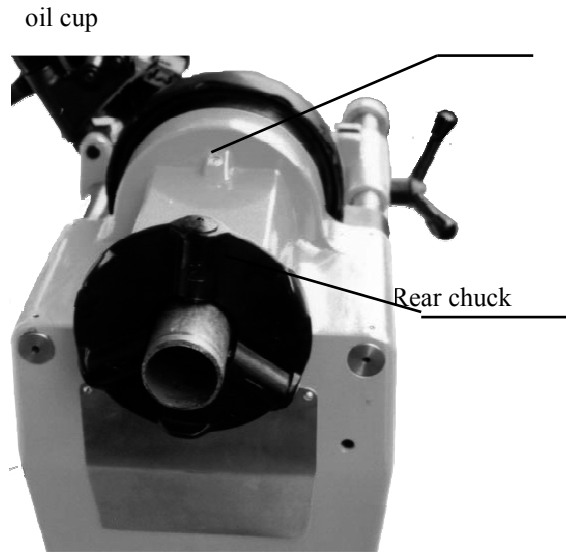

fig.3
1. Rotate the fore and rear chucks clockwise. Then loosen three claws, install the pipe from beside the rear chuck, make it pass through the fore chuck and extend by 100 mm. (see fig.3)